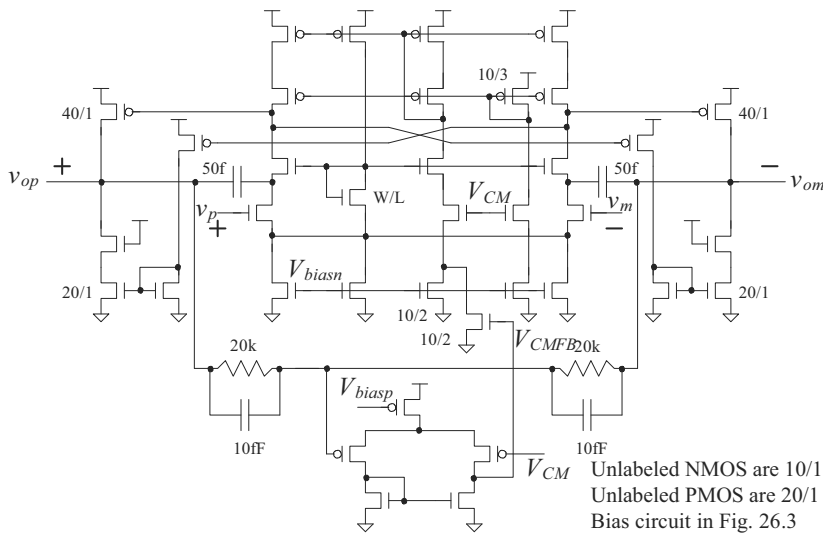

Figure 26.62 An op-amp with better biasing (but more power) for lower VDD operation.
- 26.16** Figure 26.62 shows an op-amp based on the topology seen in Fig. 26.40 but biased for lower V_{DD} operation. Select the size of the added gate-drain connected MOSFET to allow for proper operation. Simulate the operation of the design showing the DC gain and large signal step responses (as in Fig. 26.34 and 26.35).